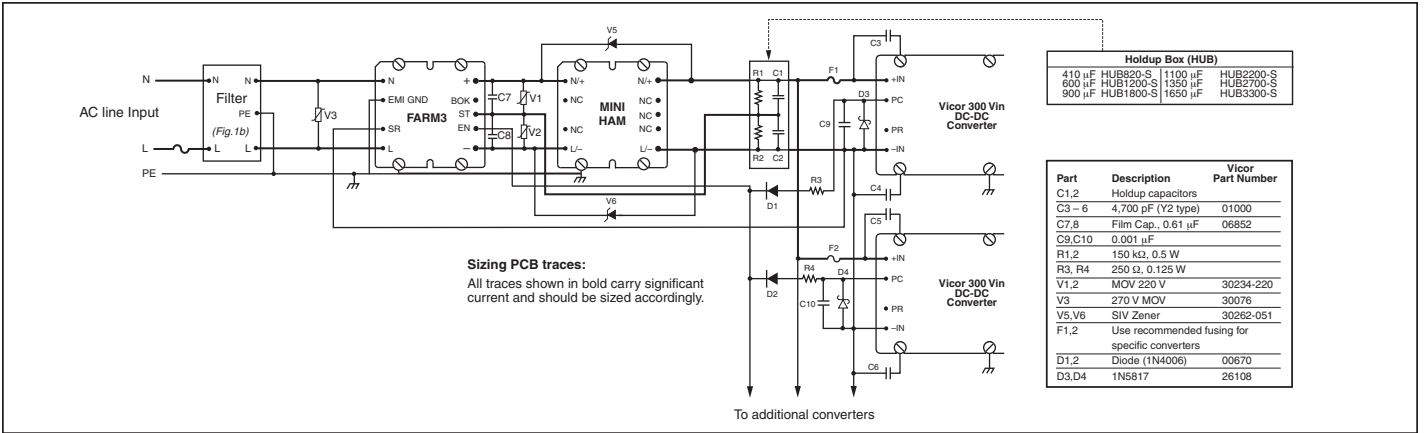

Figure 1a — Offline Power Supply Configuration
Electrical characteristics apply over the full operating range of input voltage, output power and baseplate temperature, unless otherwise specified. All temperatures refer to the operating temperature at the center of the baseplate. Performance specifications are based on the ENMod system as shown in *Figure 1a*.
■ ELECTROMAGNETIC COMPATIBILITY (configured as illustrated in *Figures 1a and 1b*)
The ENMod system provides transient/surge immunity, harmonic current attenuation and EMI filtering, in addition to all of the power switching and control circuitry necessary for autoranging rectification, inrush current limiting, and overvoltage protection. Converter enable and status functions for orderly power up/down control or sequencing are also provided. To complete the AC front-end configuration, the user only needs to add hold-up capacitors, a simple EMI filter, and a few discrete components (see Fig. 1a).
(see Figures 1a, 18a and 18b)
(see Figures 1a, 18a, and 18b)
It should be noted that the series combination ($C1$, $C2$, see *Figure 1a*) requires each capacitor to be twice the calculated value, but the required voltage rating of each capacitor is reduced to 200 V.